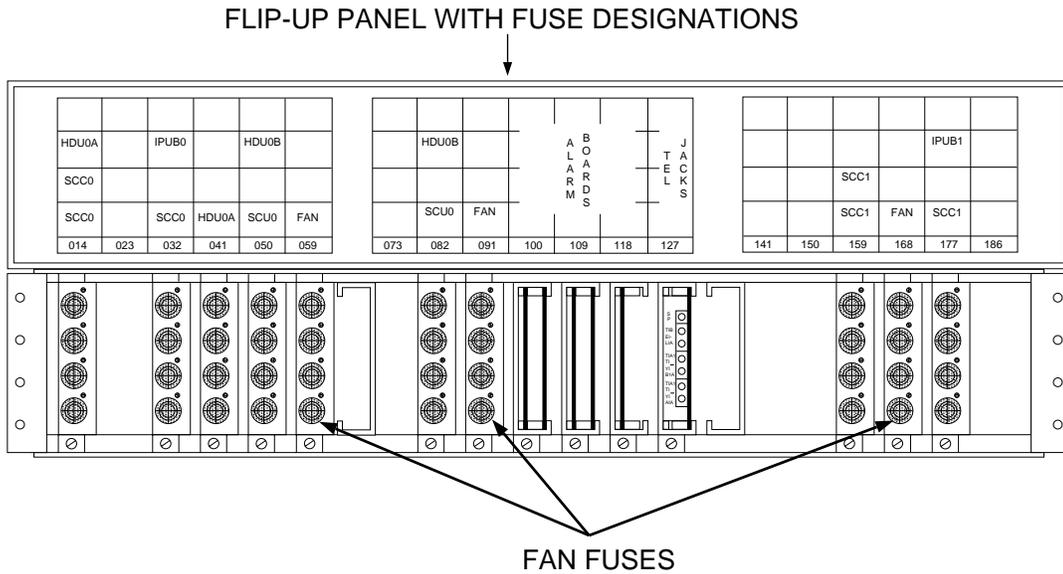
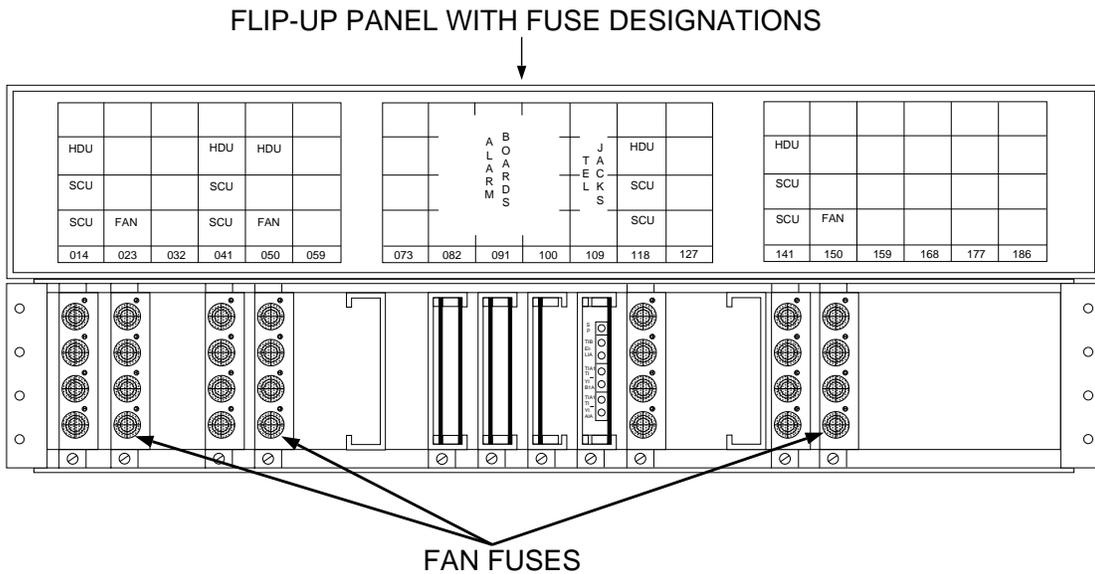

Figure 1. Location of Fan Fuses in the SCC Frame
Figure 2. Location of Fan Fuses in the SCU Frame
1. Remove the three fuses associated with the fan unit. See Figure 1 if the filter is being changed in the SCC frame, or Figure 2 if the filter is being changed in the SCU frame. Also see the labeling on the flip-up panel on the fuse and filter unit.